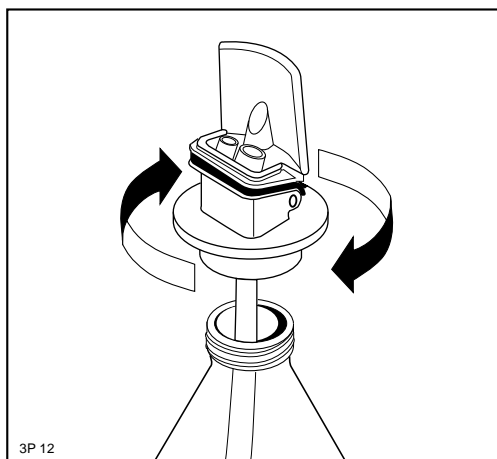
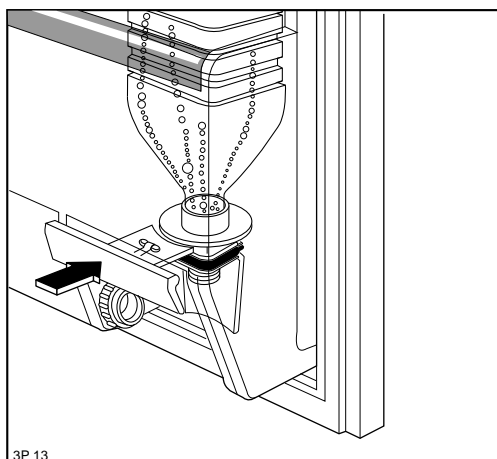
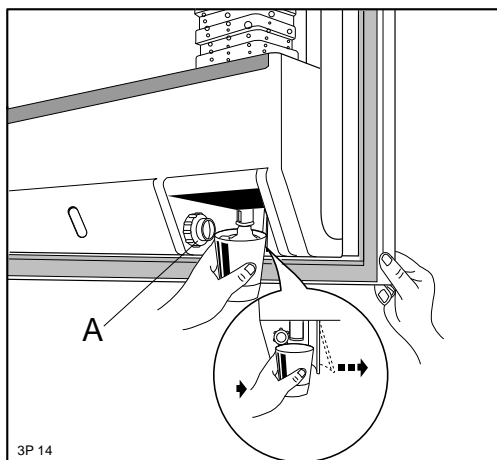

Fig. 7
Fig. 8
Fig. 9
The ideal way to have drinks “on tap”. Simply take a bottle of your favourite drink, fit the special dispenser top (Fig. 7) and place the bottle upside down in the holder on the inside of the door (Fig. 8): press lightly with the glass to dispense drinks (Fig. 9).
The reducer (A) is normally stored next to the tube holder compartment (Fig. 9) and must only be used on glass bottles.